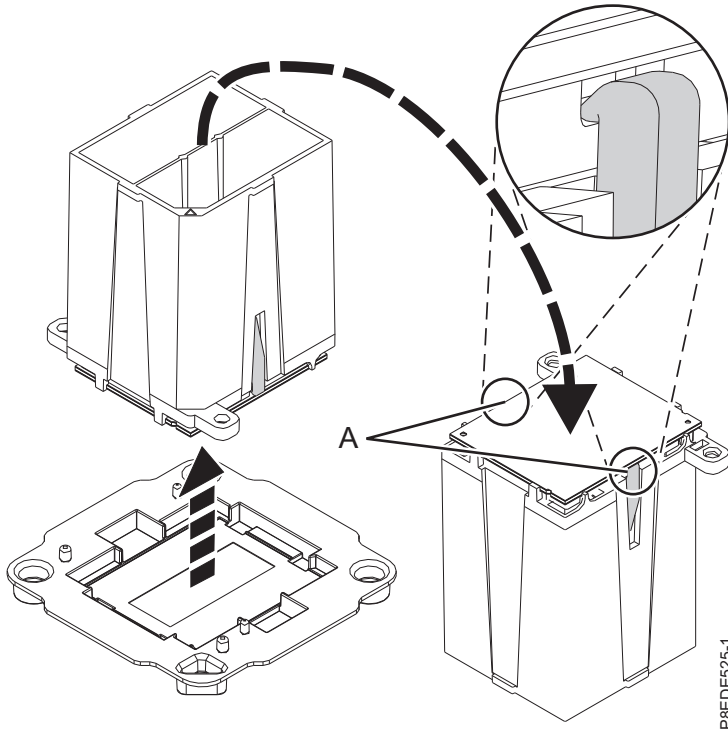

Figure 79. Ensuring the system processor module is firmly locked in the tool
- d. Ensure that both jaws (**A**) are firmly grabbing the system processor module, as shown in Figure 79.